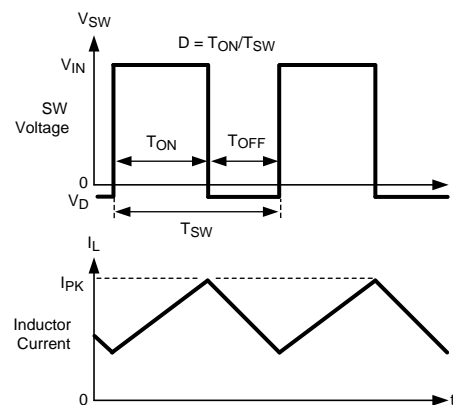

Figure 14. Typical Waveforms
The following operating description of the LMR10515 refers to Functional Block Diagram and to the waveforms in Figure 14. The LMR10515 supplies a regulated output voltage by switching the internal PMOS control switch at constant frequency and variable duty cycle. A switching cycle begins at the falling edge of the reset pulse generated by the internal oscillator. When this pulse goes low, the output control logic turns on the internal PMOS control switch. During this on-time, the SW pin voltage (V_{SW}) swings up to approximately V_{IN} , and the inductor current (I_L) increases with a linear slope. I_L is measured by the current sense amplifier, which generates an output proportional to the switch current. The sense signal is summed with the regulator's corrective ramp and compared to the error amplifier's output, which is proportional to the difference between the feedback voltage and V_{REF} . When the PWM comparator output goes high, the output switch turns off until the next switching cycle begins. During the switch off-time, inductor current discharges through the Schottky catch diode, which forces the SW pin to swing below ground by the forward voltage (V_D) of the Schottky catch diode. The regulator loop adjusts the duty cycle (D) to maintain a constant output voltage.